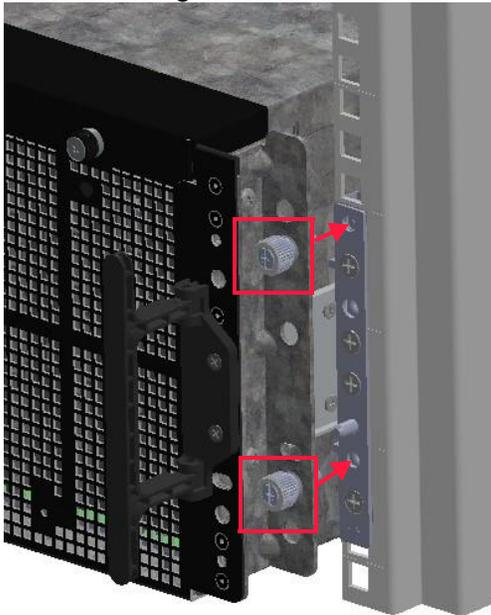

Figure 6.23 Rack thumbscrews
- The two left and two right thumbscrews on each side of the enclosure should align with the two screw holes on each rack post. Correct alignment of the right thumbscrews is shown in Figure 6.23.